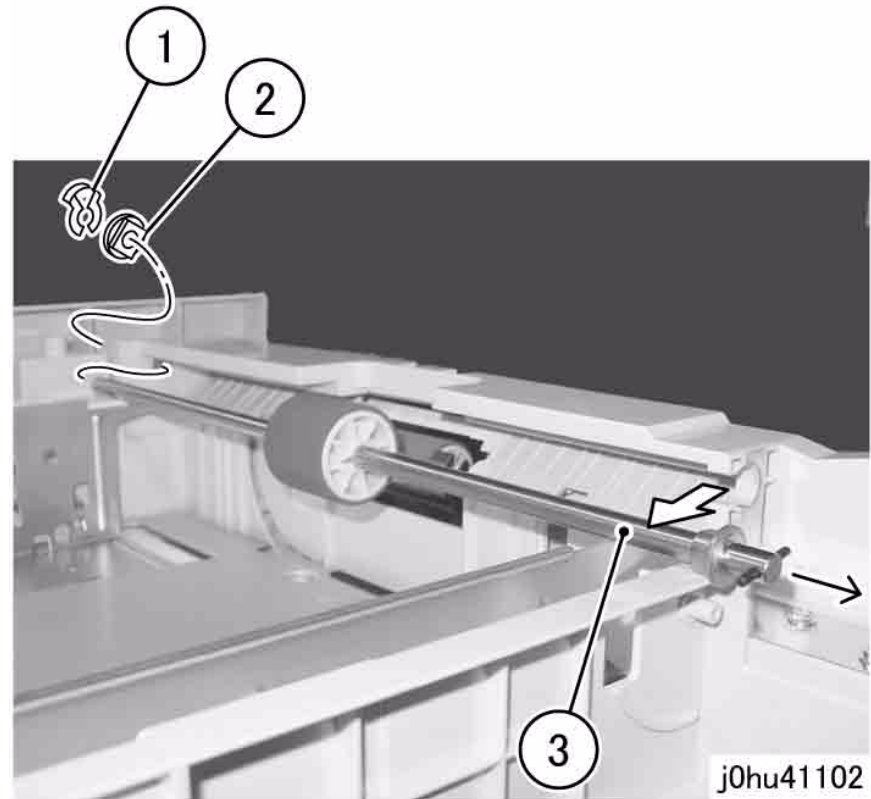

Figure 1 Remove Tray 2 Feed Shaft
2. Remove the Feed Shaft from Tray 2t (Figure 1).